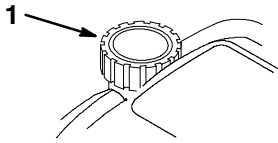

Figure 33
- Fill the fuel tank (Fig. 33) with fresh, clean gasoline.